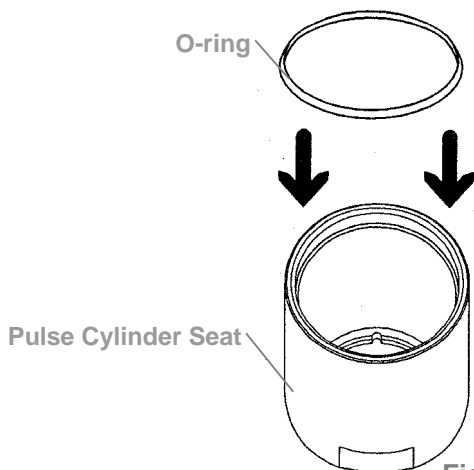
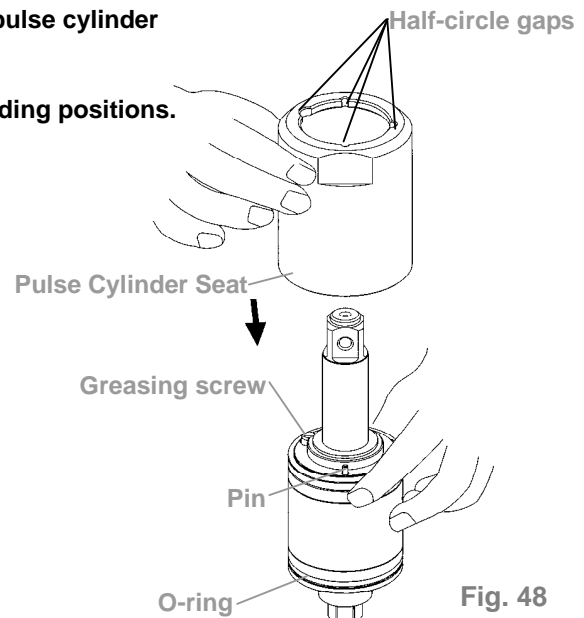

Fig. 47
Fig. 48
(4) Pulse Cylinder Seat and Lock Nut of Pulse Cylinder Assembly
- ① Place the o-ring inside the bottom of the pulse cylinder seat, then combine the pulse cylinder seat with the assembled pulse cylinder unit. (Fig. 47, Fig. 48)